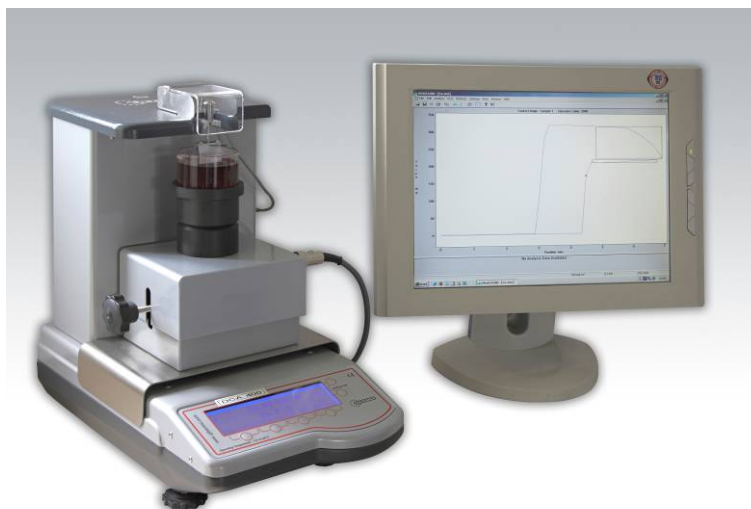

Fig. 6
- suspend the support with the plate on the hang down; place on the lab jack the container with the liquid in examination and lift it until the surface is close to the lower side of the plate (Fig. 6);